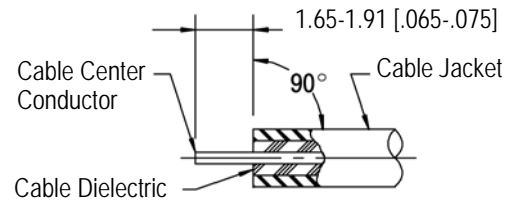

Figure 2
- Strip the cable within the dimension given in Figure 2.